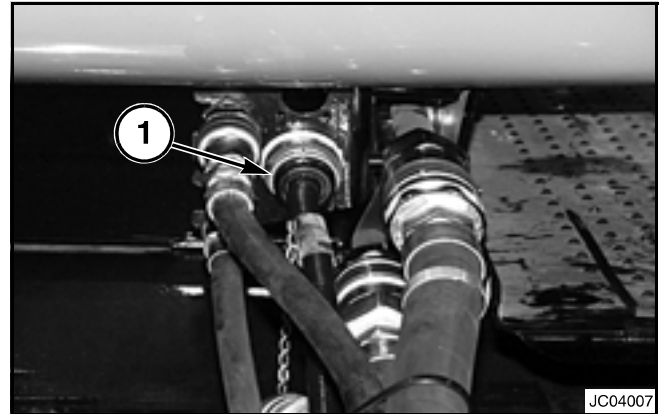

FIG. 5
FIG. 5: If the connector is a round connector, make sure the coupling ring (1) is in good condition. If the coupling ring is damaged or missing, install a new coupling ring. Also make sure the strain relief is tight and in good condition. Tighten or replace the strain relief as necessary. Make sure all of the terminals in the connector are seated correctly. The ends of the all the terminals must be even with each other. Replace any terminals that are damaged or missing. Repair parts for the connectors are available from your dealer.